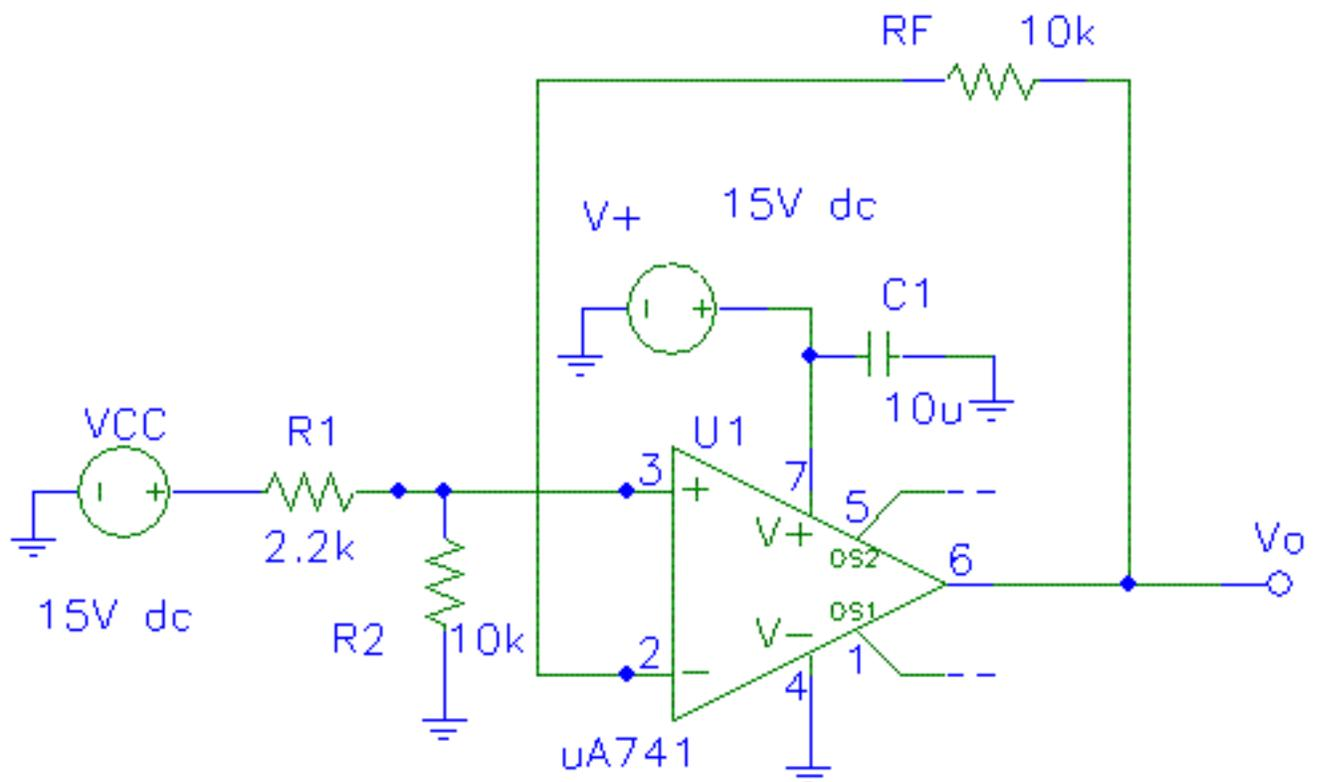

Figure 1. Biasing circuit
1. Wire the circuit shown in the schematic of Figure 1 and apply power to the breadboard. Make sure that pin 4 of the op-amp is now connected to ground. With your DC voltmeter, measure the power supply voltage (VCC) and record this value in Table 1. Using this value and the resistors values in Eq. 1, calculate the expected DC output voltages and record them in the last column of the table.